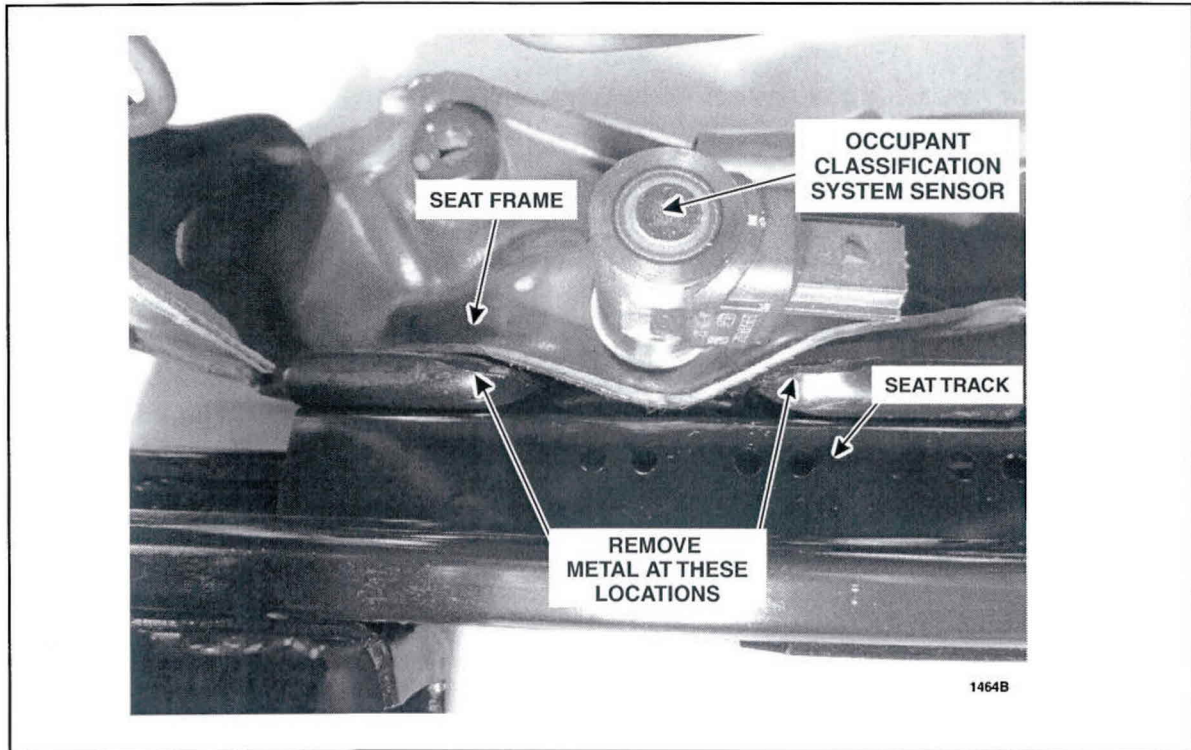

FIGURE 1
- Using a 32 teeth per inch metal hacksaw blade, insert the blade down alongside the seat frame. Using gentle force on the hacksaw blade, cut the metal as you move the blade through the contact area. Do this at both locations at each side of the sensor. See Figures 1 and 2 (Seat disassembled for clarity).